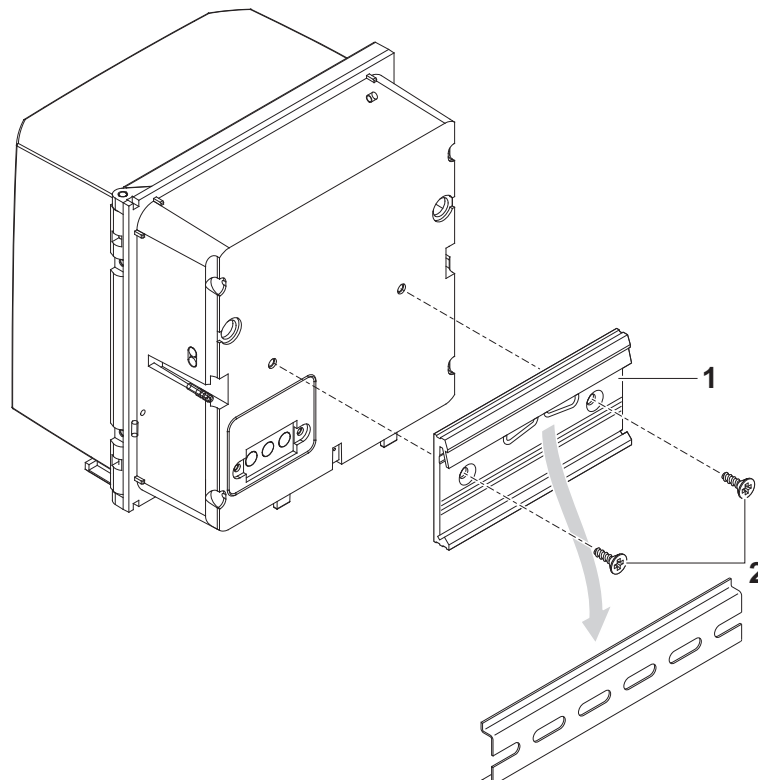

Fig. 3-9 Mounting the DIQ/S 28X on a top hat rail
- 1 Screw the clamping assembly (pos. 1 in Fig. 3-9) on the back of the universal transmitter with the two plastic tapping screws (pos. 2).